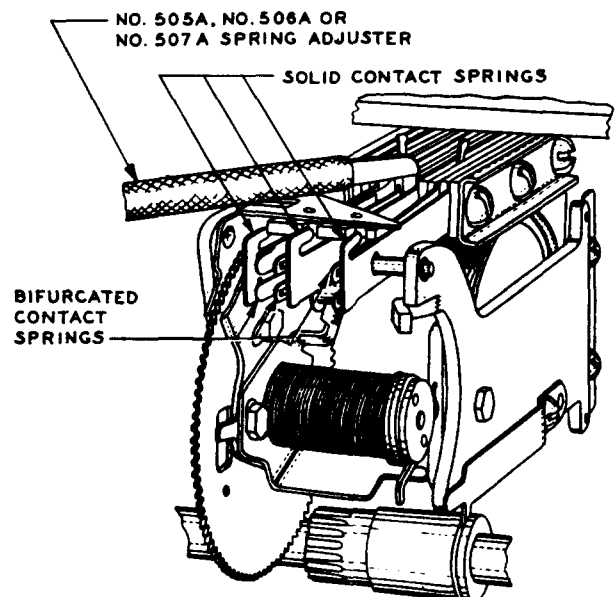

Fig. 24 - Method of Adjusting Spring Tension
(1) Use the No. 505A, No. 506A, or No. 507A spring adjuster to adjust for spring tension or contact pressure and adjust the solid and bifurcated springs, as required, applying the adjuster on the thinner part of the springs where the springs leave the clamping plate and insulators as shown in Fig. 24. After adjusting, make sure requirements 2.22, 2.23, 2.24, 2.25, 2.26, and 2.27 are met.